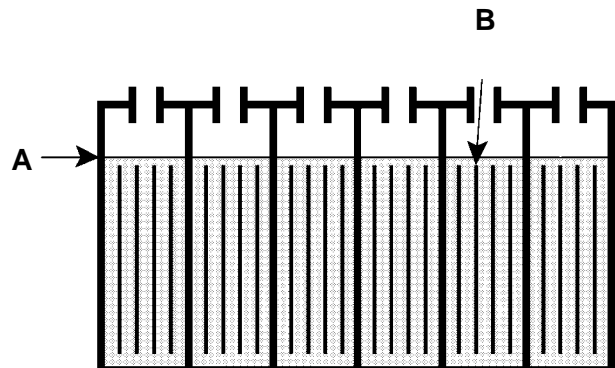

FIG. 24
4. Check fluid level (A) in each battery cell. Do not charge batteries unless fluid is slightly covering battery plates (B). If needed, add just enough distilled water to slightly cover plates. **DO NOT** overfill. Batteries can overflow during charging due to expansion. Replace cell caps before charging (Figure 24).